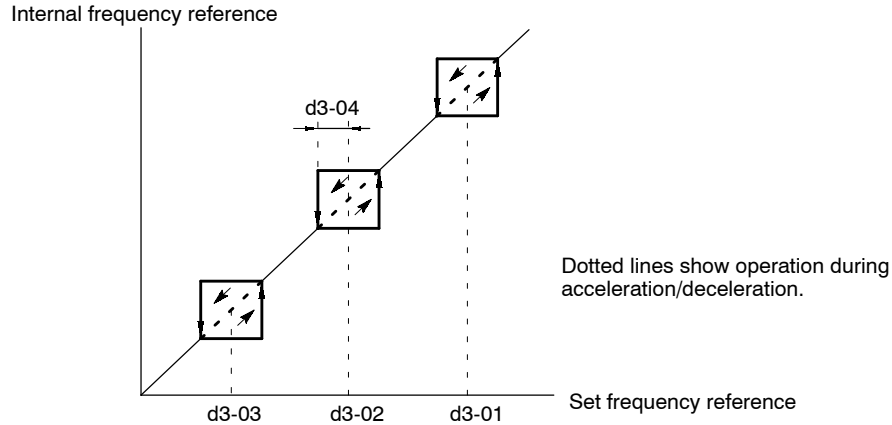

Fig 7.31 Setting Prohibited Frequencies
- The relation between the internal frequency reference and the set frequency references is shown in *Figure 7.31*.